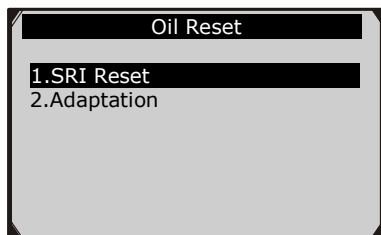
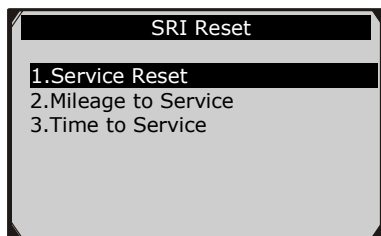
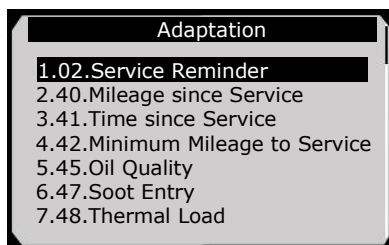

Figure 6.21
Figure 6.22
Figure 6.31
- 3) Select **SRI Reset** function from **Oil Reset** menu (Figure 6.21), and press **OK** button. Then the screen shows as Figure 6.22.
- A. From **SRI Reset** menu (Figure 6.22), select **Service Reset** function and press **OK** button. The screen will display the preset maintenance information of the vehicle. The information items vary with different vehicles.
- B. From **SRI Reset** menu (Figure 6.22), select **Mileage to Service** function and press **OK** button. The screen will display the preset maintenance information of the vehicle. The information items vary with different vehicles. (Figure 6.27)
- C. From **SRI Reset** menu (Figure 6.22), select **Time to Service** function and press **OK** button. The screen will display the preset maintenance information of the vehicle. The information items vary with different vehicles. (Figure 6.29)
- 4) From **Oil Reset** menu (Figure 6.21) select **Adaptation** function and press **OK** button. Then the screen shows as Figure 6.31.